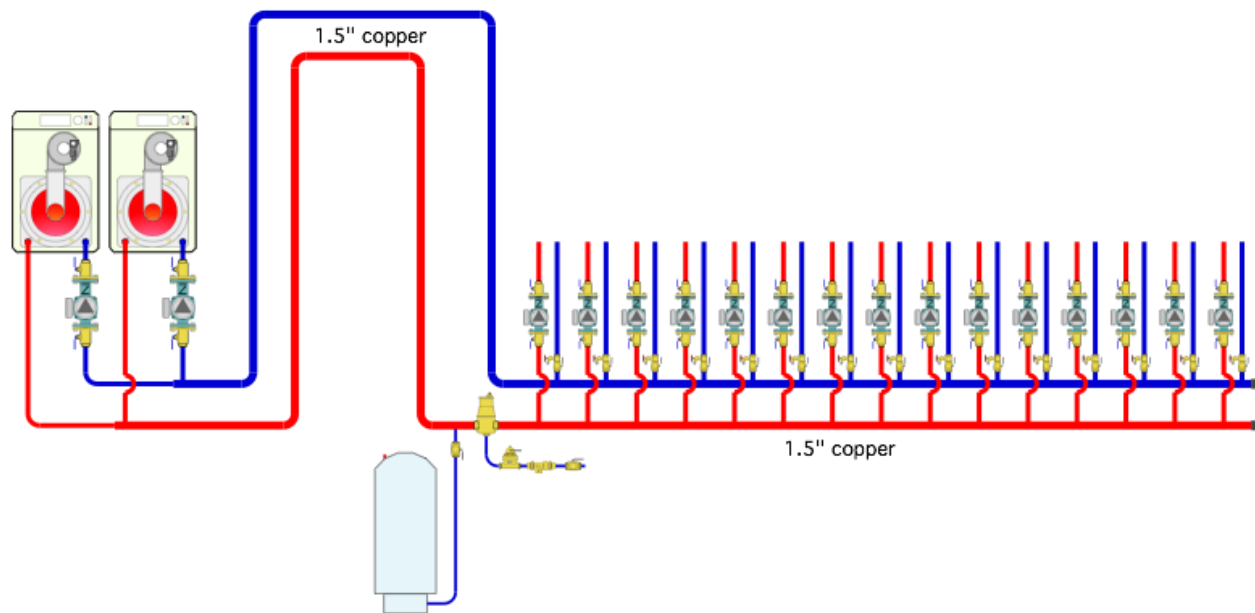

Figure 1
**John Pughe** is a long-time colleague of mine and a true hydronics professional. He recently sent me an “as installed” and “as corrected” schematic for a hydronic heating system with twin 200,000 Btu/hr mod/con boilers, and 15 zones, each powered by its own circulator. The “as installed” schematic is shown in figure 1.